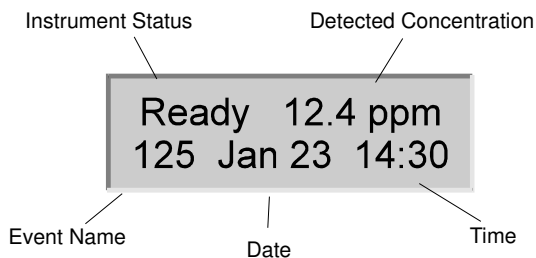

Figure 4
4. The pump will start and MicroFID will then ignite the flame. You will hear a small pop when the flame has been ignited. Once the flame has been started the message “Detector flame has been started OK” will be displayed followed by the default display, shown in Figure 4.